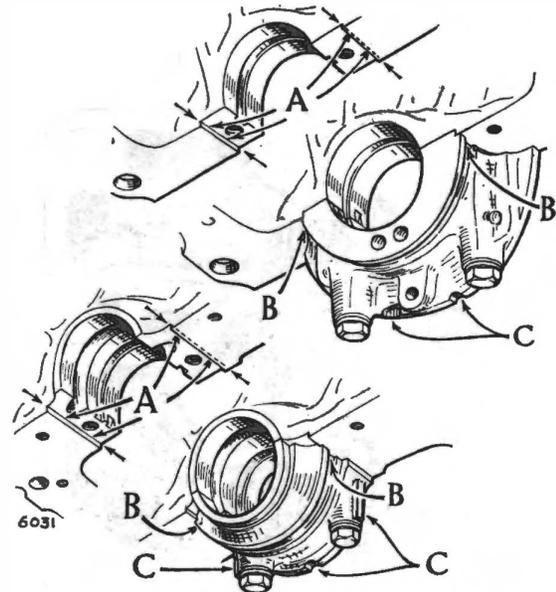

Fig. 32. Places at which jointing compound is used when replacing sump and identifications used to show when THIN cork joints are fitted.
The thickness of the semi circular cork joint is $\cdot 180'' - \cdot 190''$ (4.5 — 4.88 mm.) or $\cdot 150'' - \cdot 160''$ (3.8 — 4.0 mm.). **These joints are not interchangeable.** The thin joint has replaced the thick joint and is recognised by its colour dyed ends. Where the thin joints are used the front and rear main bearing caps have a casting recess, or cast protrusions as shown in Fig. 32, by the letter (C). The identification used on the front main bearing caps can be seen with the sump in position. A small number of these bearing caps are without the casting marks and have rough ground grooves as illustrated.
When dealing with difficult cases of oil leakage, the front and rear main bearing caps should be removed and "Wellseal" or other suitable non-setting jointing compound applied along the front and rear main bearing recess vertical locating faces (A) as shown in Fig. 32. The compound must be kept off of the horizontal butting faces. On replacing the main bearing caps the jointing compound is trapped in the small corner clearance between the outside edges of the bearing caps and the corner of the locating recess. This prevents oil leakage along the small clearance that must exist at these points and along which oil sometimes leaks.